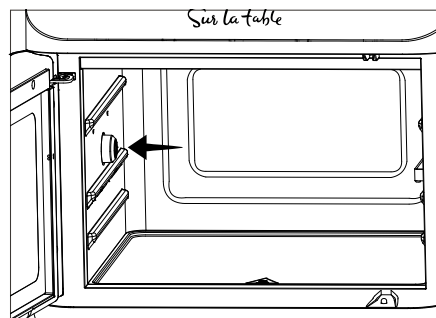
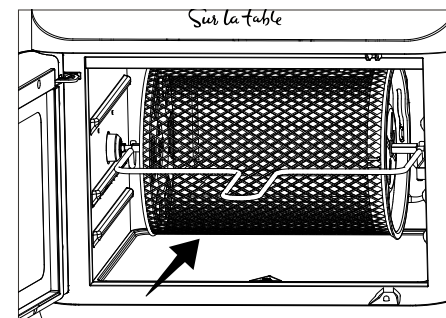

Figure 1
Figure 2
- Using the handle tool (I), place the shaft of the accessory (F, G or H) into the left coupler (fig. 1) and place the right end on the bracket slot (fig. 2)